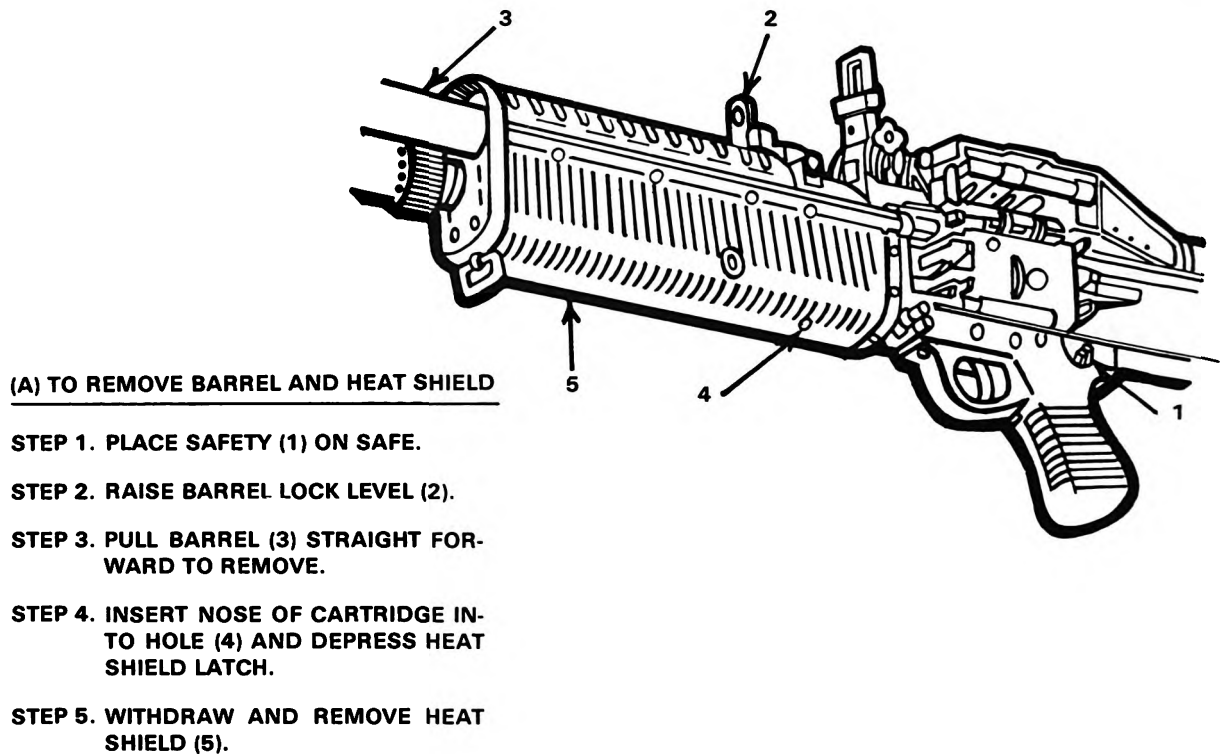

Figure 1A.
a. To remove the barrel and heat shield, see figure 1A.